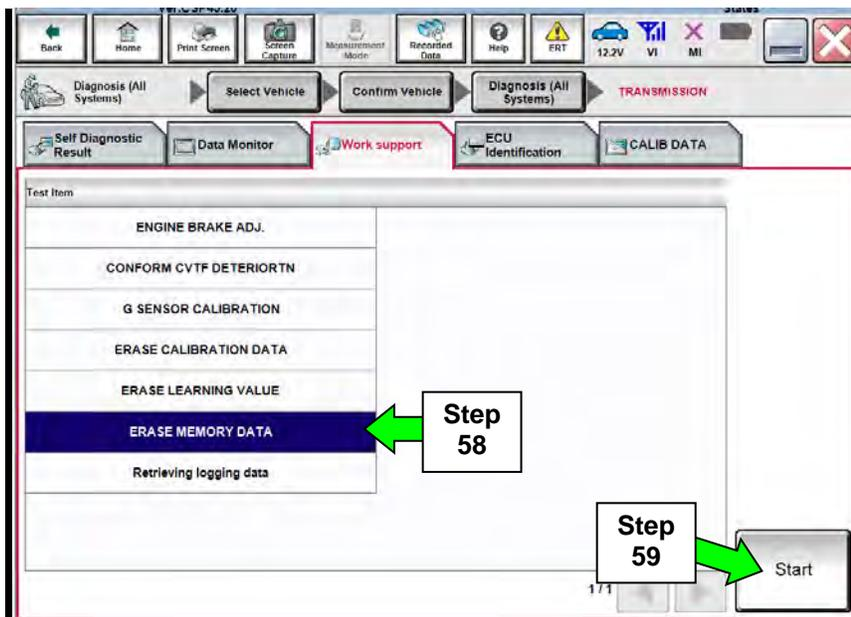

Figure 34
57. Navigate C-III plus to the screen shown in Figure 34.